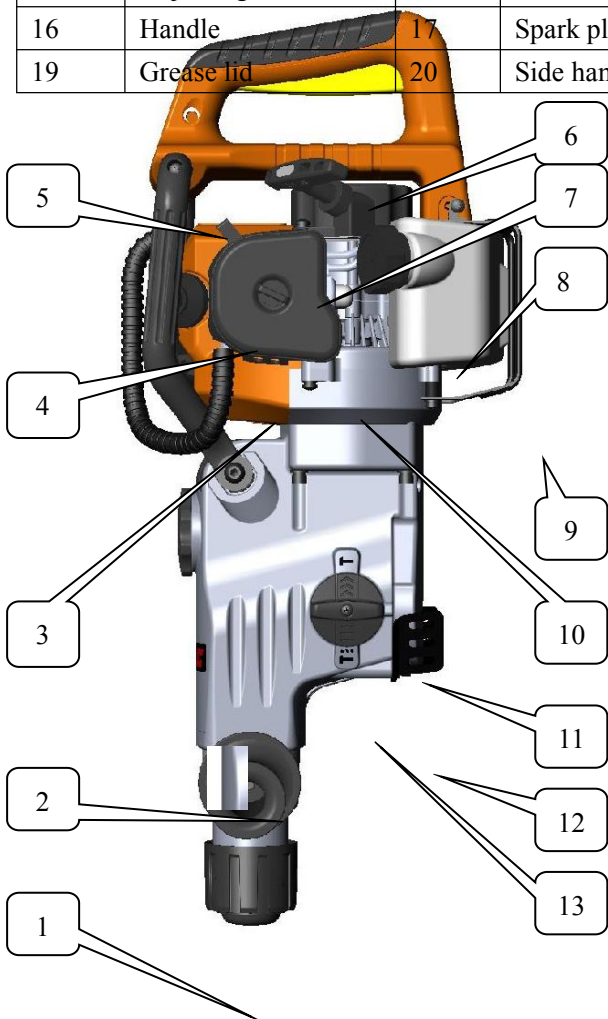

Figure 1
**7.2** Down by the flameout switch button until the engine stalled. Flame out switch position as shown in figure 1